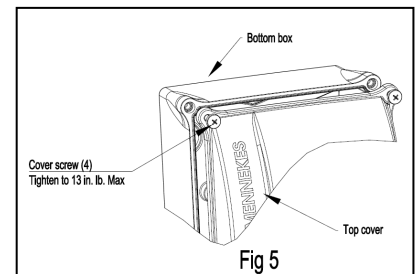

Fig. 5
Fully loosen screws (Do Not Remove) located in four corners of cover. See Fig. 5
6. Reinstall Cover and Tighten 4 Cover Screws to 13in.lb max. See Fig. 5
6. Reinstall Cover and Tighten 4 Cover Screws to 13 in.lb max. See Fig. 5